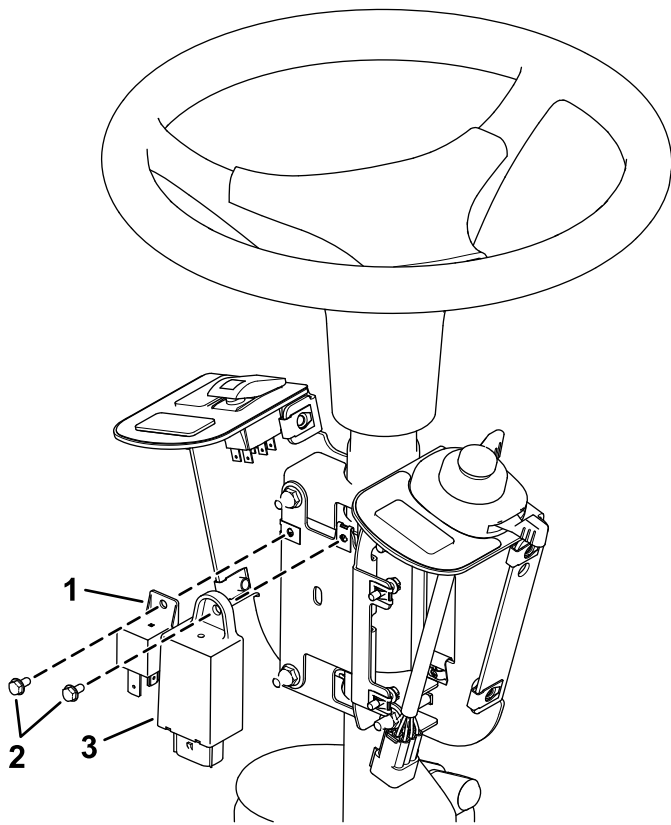

Figure 7
4. Install the flasher and relay to the fuse-mount plate using 2 screws (#10 x 3/8 inch) as shown in Figure 7.